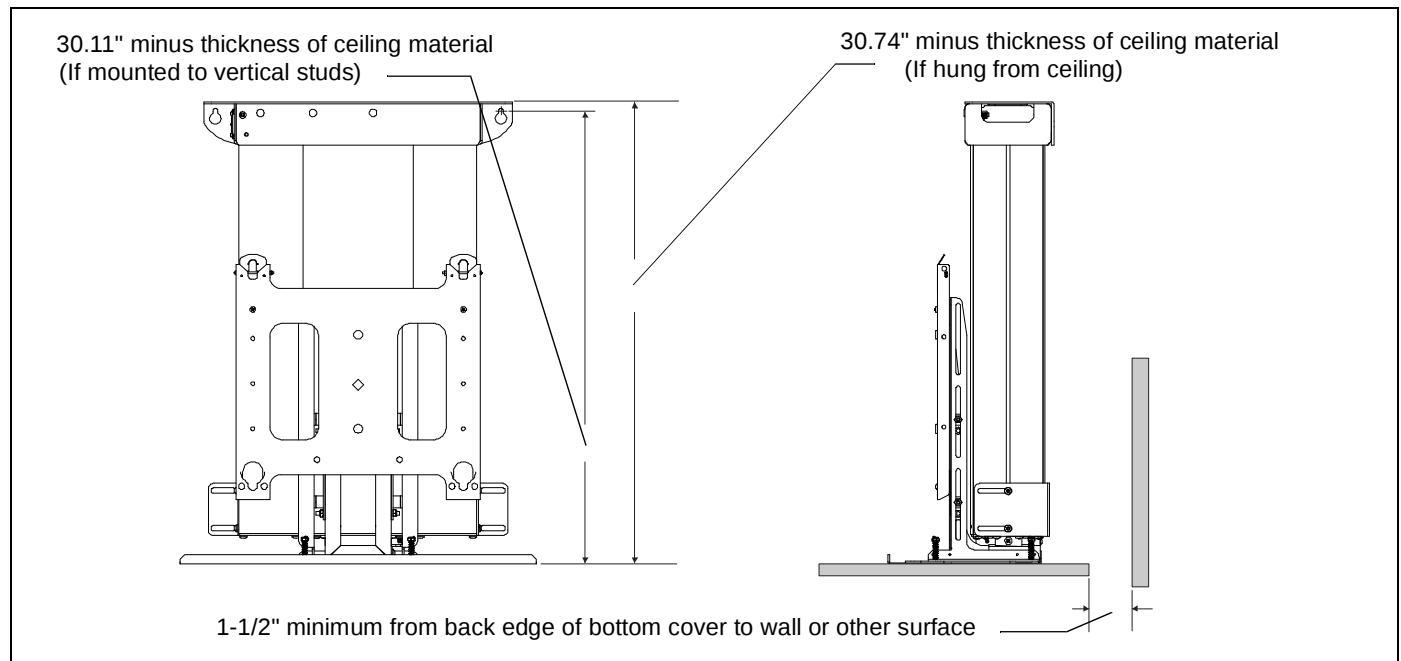
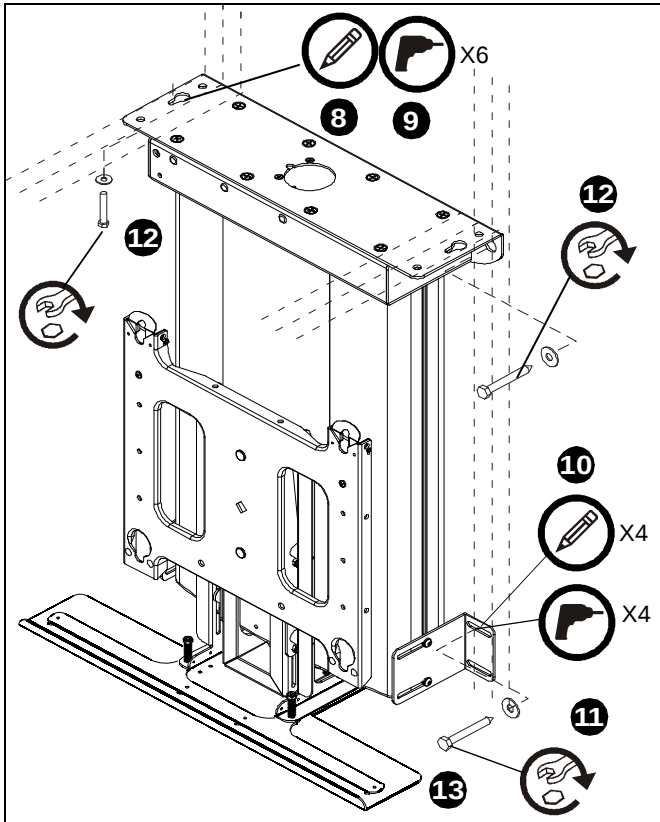

Figure 15
Figure 16
4. Locate vertical and horizontal position of mount. (See figure 15)
5. Loosen four screws securing side mounting brackets to mount and adjust side mounting brackets until properly positioned against studs if applicable. (See figure 16)
7. While maintaining dimensions referenced in figure 15, mark base plate mounting hole locations. (See figure 16)
9. Mark four side bracket mounting hole locations if applicable. (See figure 16)
11. Secure base plate to structure using either two (wall mount) or six (ceiling mount) 5/16" flat washers and two or six 5/16" x 2 1/2" lag screws. (See figure 16)
12. Secure side brackets, if applicable, to studs using four 5/16" flat washers and four 5/16" x 2 1/2" lag screws. (See figure 16)